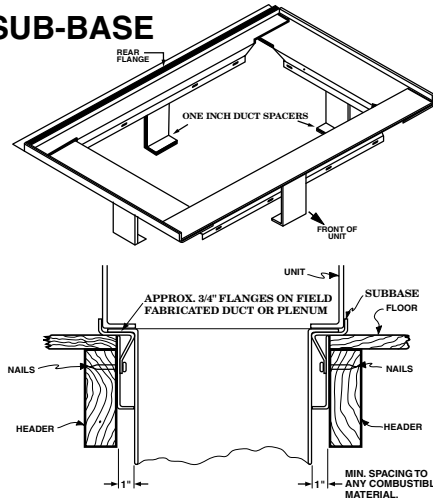

Figure 1
6. When the air handler with supplementary heater is to be installed in the downflow position on combustible flooring an accessory sub-base (TAYBASE100 for 4TEE3F39-64) must be used. See Figure 1.